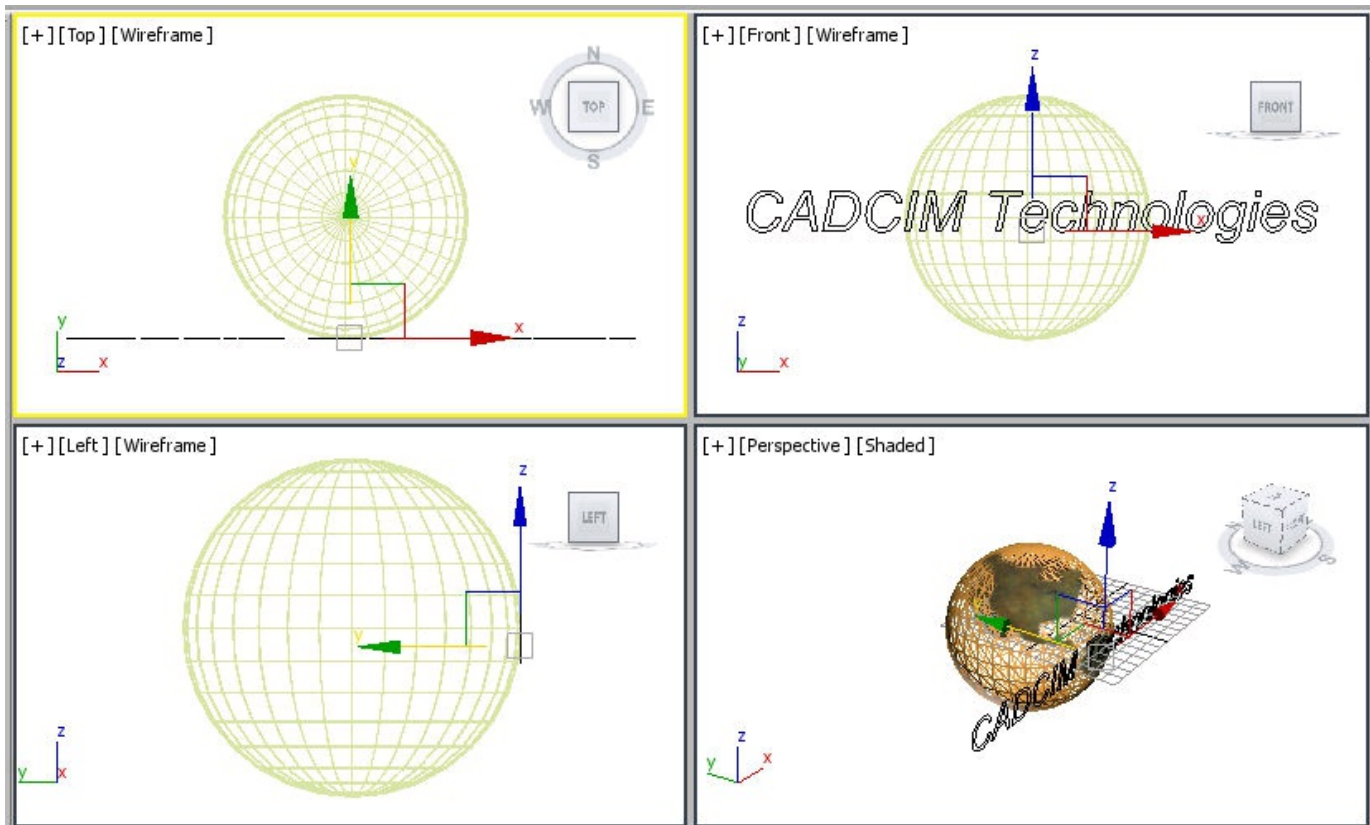

Figure 14-46 Alignment of *Text001* in viewports
3. Choose the **Zoom Extents All** tool and align *Text001* in the viewports, as shown in Figure 14-46.